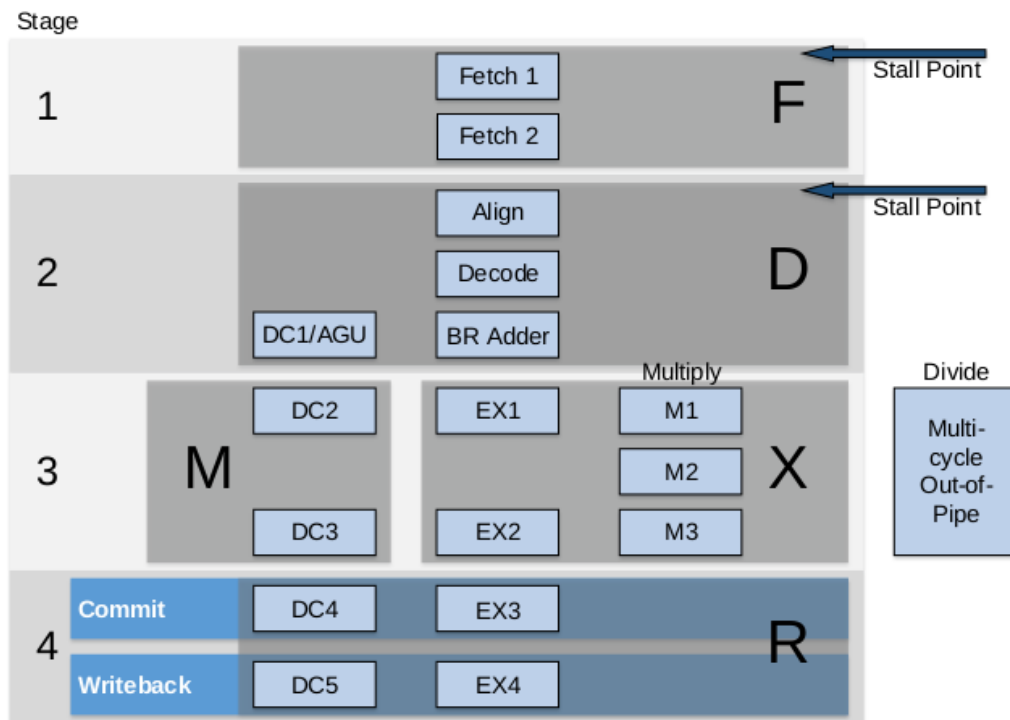

Figure 3. VeeR EL2 core microarchitecture
Western Digital developed three RISC-V cores over the past few years: VeeR EH1 (formerly called SweRV), VeeR EH2 (or SweRV EH2 previously), and VeeR EL2 (the core we use in this course, formerly called SweRV EL2). Each core has an Apache 2.0 license. The VeeR EH1 Core (<https://github.com/chipsalliance/Cores-VeeR-EH1>) is a 32-bit, 2-way superscalar, 9-stage pipeline core. The VeeR EH2 Core (<https://github.com/chipsalliance/Cores-VeeR-EH2>) builds on and expands the EH1 Core to add dual threaded capability for additional performance. The VeeR EL2 Core (<https://github.com/chipsalliance/Cores-VeeR-EL2>) is a smaller core with moderate performance (see Figure 3) is a scalar 4-stage core with one execution pipeline, one load/store pipeline, one multiplier pipeline, and one out-of-pipeline divider. There are two stall points in the pipeline: 'Fetch' and 'Decode'. The figure also shows how VeeR EL2's logic stages have been shifted up with respect to VeeR EH1 and merged into 4 stages named Fetch (F), Decode (D), Execute/Memory (X/M), and Retire (R). Also shown is additional logic such as a new branch adder in the D stage, not included in VeeR EH1. The branch mispredict penalty is either 1 or 2 cycles in VeeR EL2. The merged F stage performs the program counter calculation and the I-cache/ICCM memory access in parallel. The load pipeline has been moved up so that the DC1 memory aNoDDRess generation (AGU) logic is now combined with align and decode logic to enable a DCCM memory access to start at the beginning of the M stage. The design supports a load-to-use of 1 cycle for smaller memories and a load-to-use of 2 cycles for larger memories. For 1-cycle load-to-use, the memory is accessed and the load data aligned and formatted for the register file and forwarding paths, all in the single-cycle M stage. For 2-cycle load-to-use, almost the entire M stage is allocated to the memory access, and the DC3/DC4 logic combined into the R stage is used to perform the load align and formatting for the register file and forwarding paths.